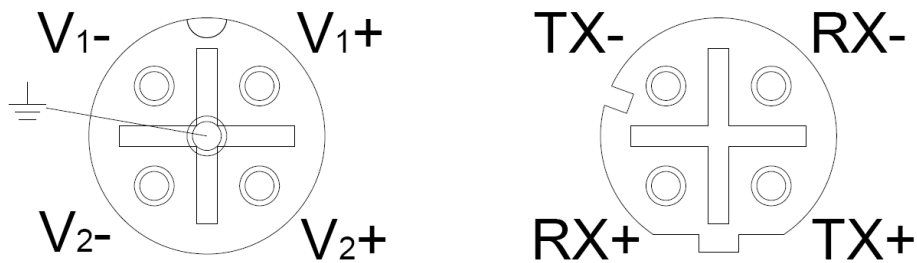

Figure 2-12: Ethernet Switch Power (Left) and COMs (Right) Port Pin-outs
The M12 A-coded, 5-pin (M) power connector is keyed, where the mating connection from the power supply can be made only when the male and female ends are properly aligned. When power is initially connected, all LEDs will illuminate momentarily. See **Figure 2-12, left** for the pin-outs of the power connector.
The COMs ports are M12 D-coded, 4-pin (F) connectors and were shipped with IP67 caps installed to protect from dust and moisture ingress. The caps will need to be removed before connecting cables to the COMs port. See **Figure 2-12, right** for the pin-outs of the COMs connectors.